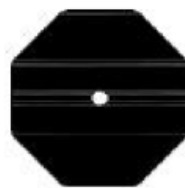
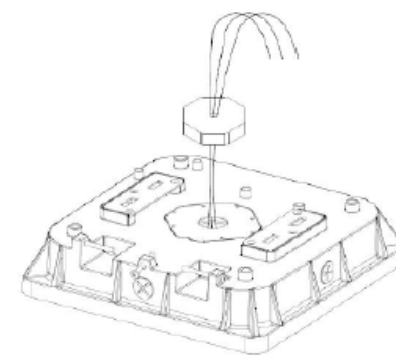

Figure 7
Figure 8
- Drill a hole in the center of the enclosed EVA (ethylene-vinyl acetate) foam gasket (see Figure 7). And then remove the sheet covering the adhesive. Feed the luminaire power wires through the drilled hole, and then apply the adhesive-side of foam gasket to the back of the luminaire housing to provide a watertight seal (see Figure 8).